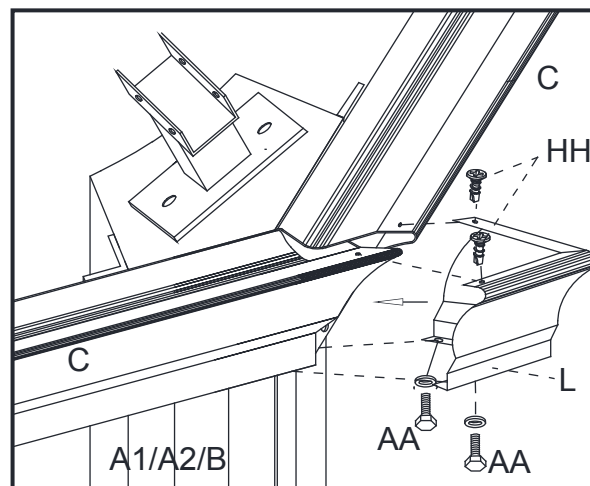

Fig.6
3.2 Attach the Corner Cover (L) to the Lintel (C) with Bolt (AA). Attach the Corner Cover (L) to the Lintel (C) with Screw (HH), see Fig.6.